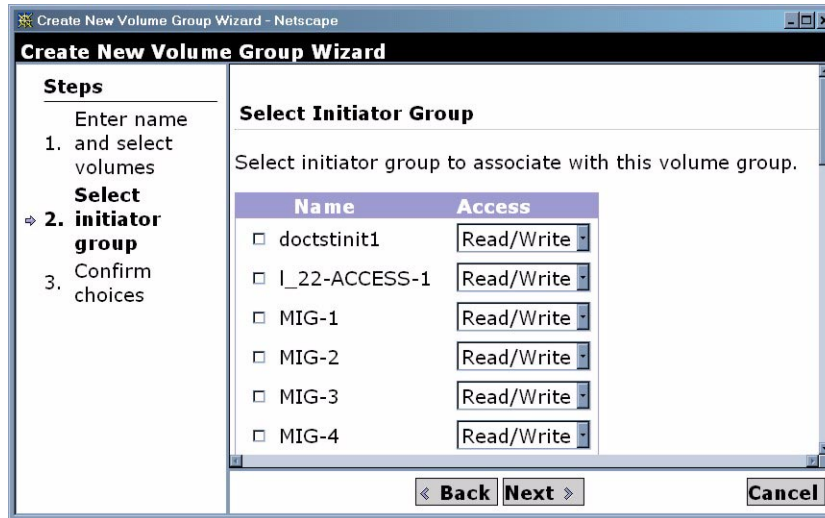

FIGURE 6-17 New Volume Group Wizard—Select Initiator Group Page
9. Click Next and the Select Initiator Group page is displayed as shown in FIGURE 6-17